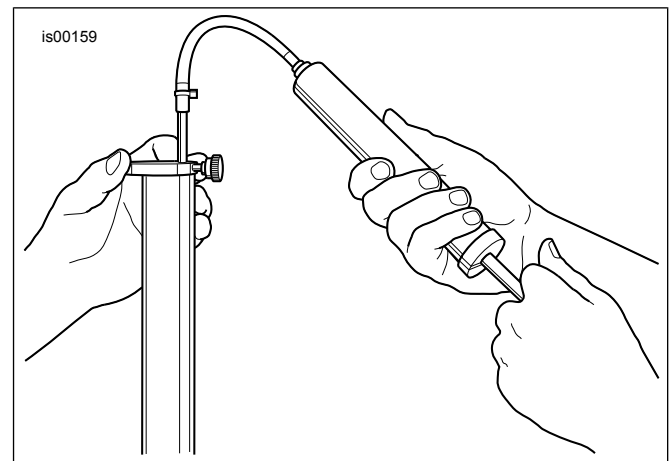

Figure 3. Remove Excess Fork Oil
22. See Figure 3. Adjust the fork oil level, so that it is 170 mm (6.69 in) from the top of the fork tube with the fork tube compressed and the fork spring removed.